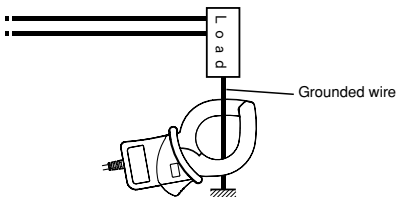

Fig.2 Measurement of leakage current on ground wire
- (4) Measurement on ground wire (see Fig.2)